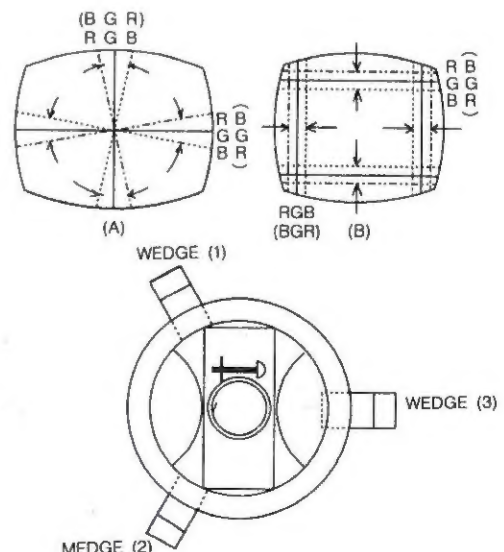

Fig. 9 Dynamic Convergence Adjustment
3. Tilt the deflection yoke up or down, and insert tilt adjustment wedges (1) and (2) between the deflection yoke and the CRT until the improper convergence illustrated in Fig. 9 (A) has been corrected.
4. Tilt the deflection yoke right and left, and insert tilt adjustment wedge (3) between the deflection yoke and the CRT until the improper convergence illustrated in Fig. 9 (B) has been corrected.